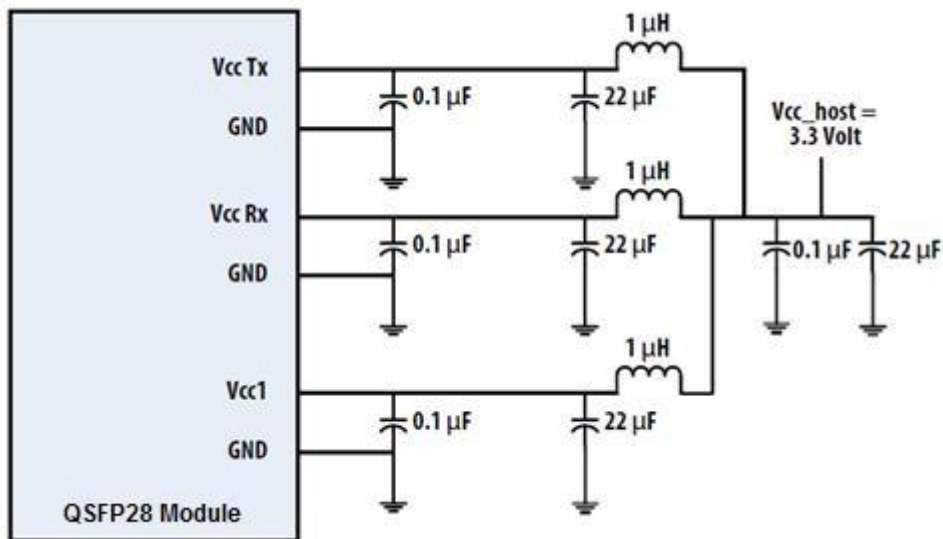

Figure 3. Recommended Power Supply Filter
2.VccRx, Vcc1 and VccTx are the receiving and transmission power suppliers and shall be applied concurrently. Recommended host board power supply filtering is shown in Figure 3 below. Vcc Rx, Vcc1 and Vcc Tx may be internally connected within the QSFP28 transceiver module in any combination. The connector pins are each rated for a maximum current of 1000mA.